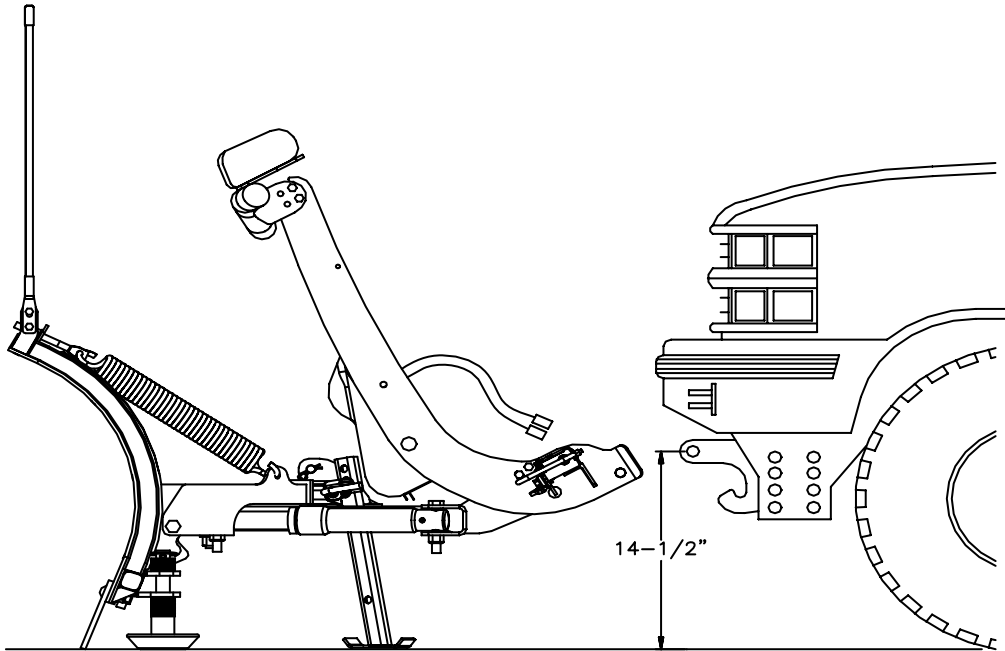

Figure 2
1. Remove the three bumper mounting bolts on each frame rail. Remove tow hooks if present, and the corresponding tapped plate inside the frame rail. Insert the NUT PLATES (62C) into the front frame rails. Position the PUSH BEAM SUPPORT PLATES (62A and 62B) to the front frame rails of the truck. Using M14 x 2.00 Hex Head Bolts (D) and M14 Lock Washers (E) provided, bolt the PUSH BEAM SUPPORT PLATES (62A and 62B) through the outside of the frame sides. Next use the ½" – 13 x 3" Hex Head Bolts (C) and the ½" Flat Washers (F) to bolt the PUSH BEAM SUPPORT PLATES (62A and 62B) through the bottom of the frame into the NUT PLATES (62C). If the truck is equipped with tow hooks, it will be necessary to re-install the right hook on the left side of the truck and the left hook on the right side of the truck. Tow hooks should be installed below the PUSH BEAM SUPPORT PLATES (62A and 62B). Fasteners should only be finger tight.
2. Remove the four existing bolts holding the skid plate in place on the vehicle. Use the same four hex head bolts to mount the ANGLE BRACKET (75) into place on the outside of the skid plate. Fasteners should only be finger tight.
3. Bolt the PUSH BEAM (62) in place using the ½" – 13 x 1- ½" Hex Head Bolts (A) and self locking nuts provided. Fasteners should only be finger tight. NOTE: the proper height adjustment for the PUSH BEAM is approximately 14- ½" from the ground to the center of the PUSH BEAM pin receiving hole (see Figure 2).